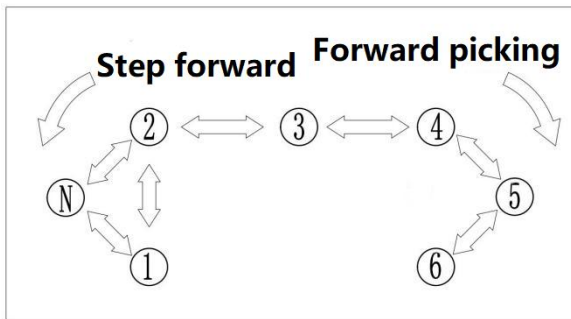
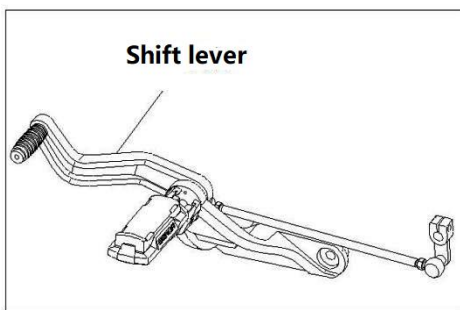

Fig14 Shift position
Fig15 Shift lever
5.4.1 Shift operation (Fig14, Fig15)